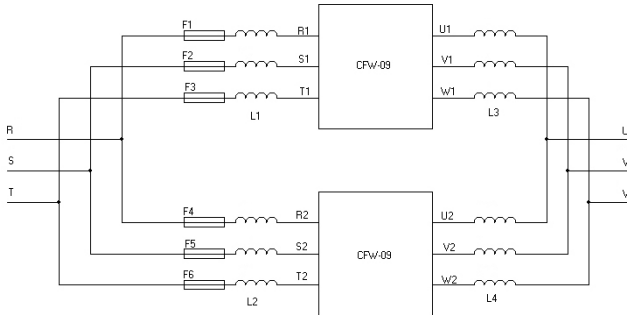
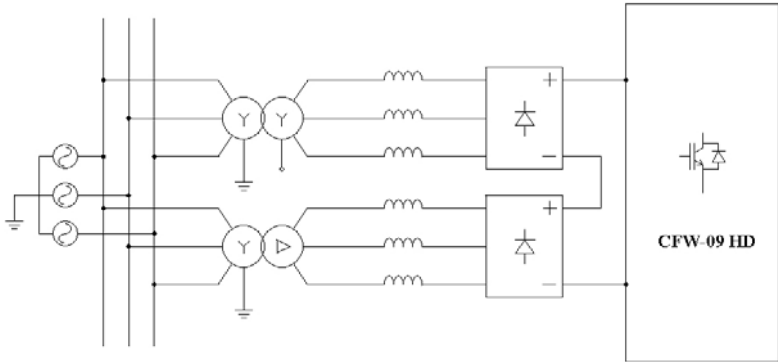
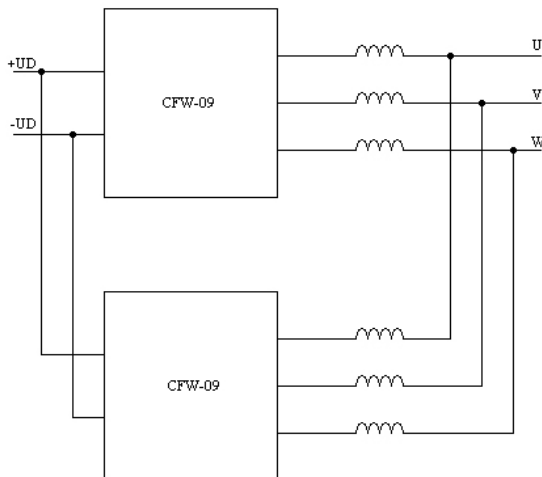

Figure 1 - Assembling with two modules
Figure 3 - 12 pulse rectifier by using two transformers
Figure 4 - Modules supplied directly by the DC link
- ☑ The inverters of the CFW-09 series for currents higher than 500 A are designed in modular assembling with two or three module configurations. The modular feature increases the inverter reliability and makes the maintenance services easier (Figure 1 and 2).
- ☑ The Figures 1 and 2 shows standard configuration. However when the harmonic distortion of the input current may cause problem, you can create a DC bus from the 12-pulse rectifier (Fig. 3) and supply the modules through the DC link directly (Fig. 4). For this connect a CFW-09 HD at the output.
- ☑ Figure 3 shows 12-pulse rectifier by using two transformers. You can also use only one transformer with two secondary windings.
- ☑ When the modules are supplied directly through the DC link, the module that has the control board and the PIB board receives the designation HF and the other(s) are designated as HG. Fig. 4 shows the configuration with two modules, but the configuration with three modules also exists.
- ☑ The input reactances (Fig. 1 and 2) shall have a min. drop of 2% and their impedance shall be identical, i.e. , they shall be electrically as similar as possible. Also the output reactances (Fig. 1 and 2) shall be electrically similar, where a drop lower than 2% is not permitted, recommending a typical value of 2%. It is recommended that the sum of input and the output reactance percentage does not exceed 5%. **The reactance symmetry is very important for the current division among the modules. The difference between the reactances should be smaller or equal to 3% at the rated current. Each reactance must be fitted with a coil NF 140°C Thermostat.** The formula for the inductance calculation is given by the Equation below: